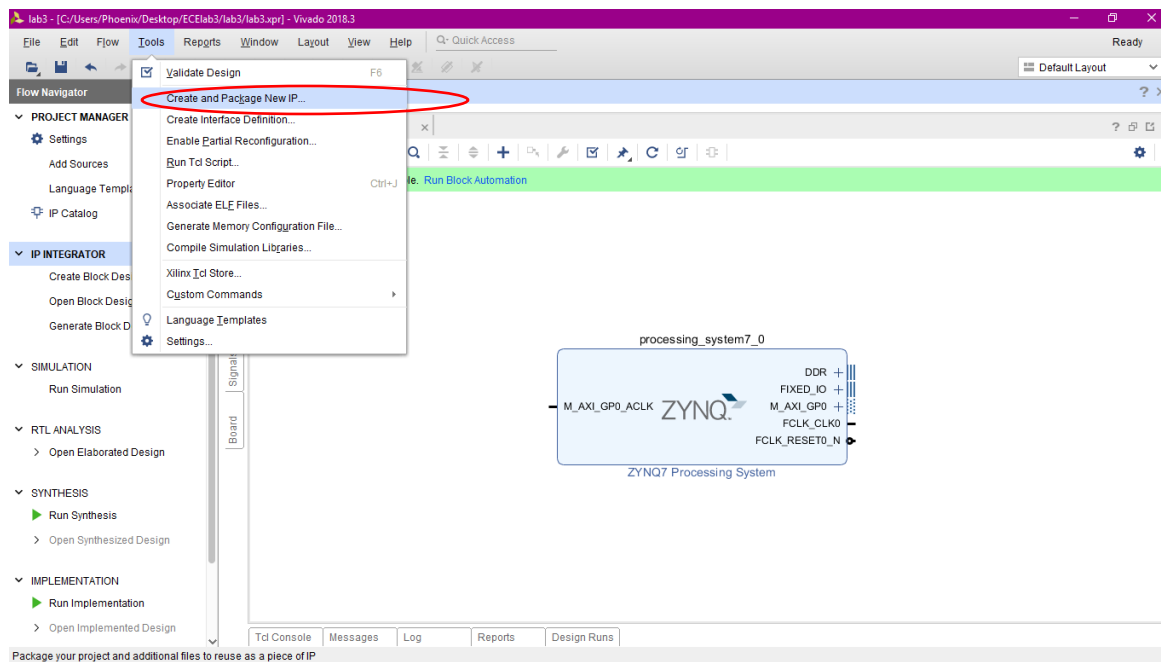

Figure 4: Create an Package Location
- (h) A window will appear prompting you to assign a name and version number to your peripheral (Figure4). Name the peripheral 'multiply' and leave the version number as default (i.e 1.0). You can enter a short description of your peripheral if you would like in the 'Description' field.